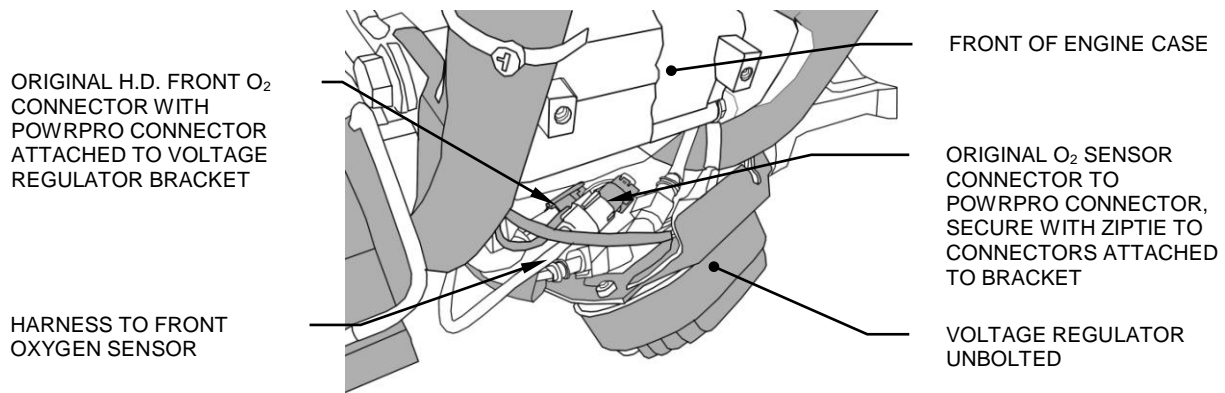
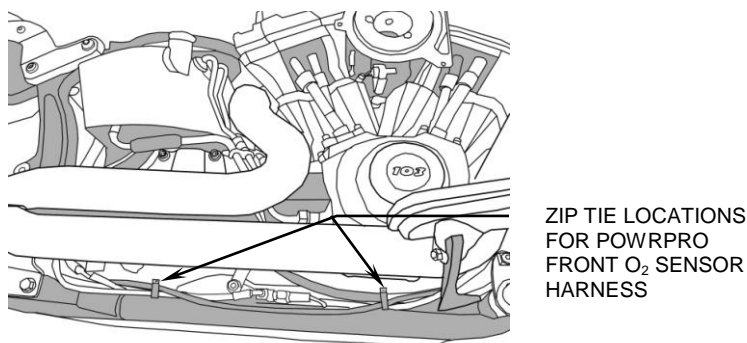

FIGURE 4
FIGURE 5
7. Remove the 2 Allen bolts that secure the voltage regulator bracket to the engine case. Ease the voltage regulator forward just enough to access the front O₂ connector, it is located on the backside of this bracket, see Figure 4. Unplug the connector and then plug the Powrpro female connector into the original HD male connector as well as the other mating pair of connectors. Reinstall this connection on to the voltage regulator bracket and zip tie the other mating pair to it. Be sure the O₂ sensor harness exits the right side, when securing the voltage regulator back on to the engine case. Secure the Powrpro O₂ harness to the lower right frame rail in the locations shown in Figure 5.